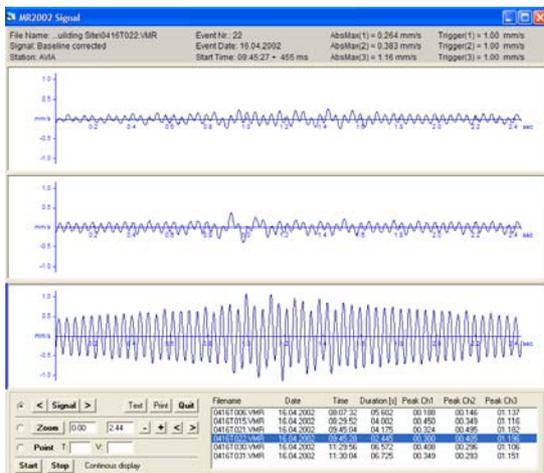

Fig. 2.1
1. Mark the signal you want to copy by clicking on it with the mouse. The blue line indicates the active signal (see Fig. 2.1).